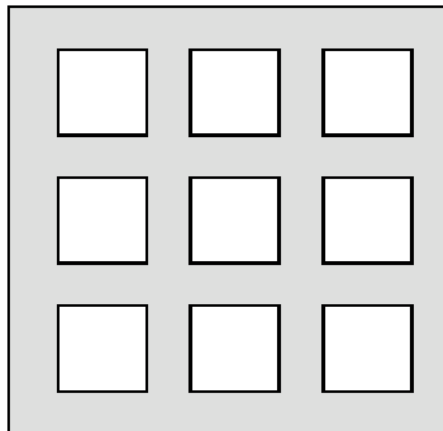

Figure 20. Solder Paste Application on Exposed Pad
3. For the PCB thermal pad, solder paste should be printed on the PCB by designing a stencil with an array of smaller openings that sum to 50% of the QFN exposed pad area. Solder paste should be applied through an array of squares (or circles) as shown in Figure 20.